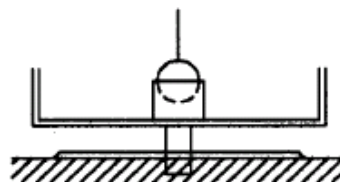

Fig. 8 Horizontal adjustment
- Insert the adjustment cylinder onto the measuring scale and insert the pendulum bob into this cylinder (see Fig. 8).